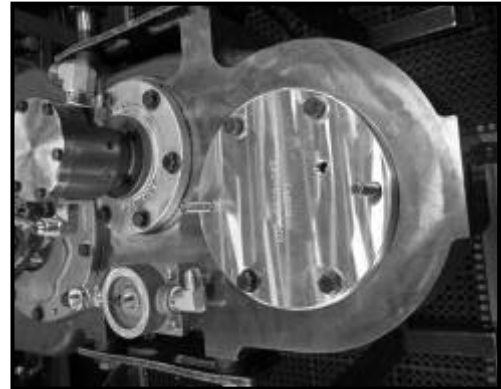

Figure 96
3. Align and install the PTO declutch housing or cap on to the transfer case housing. See **Figure 96**.